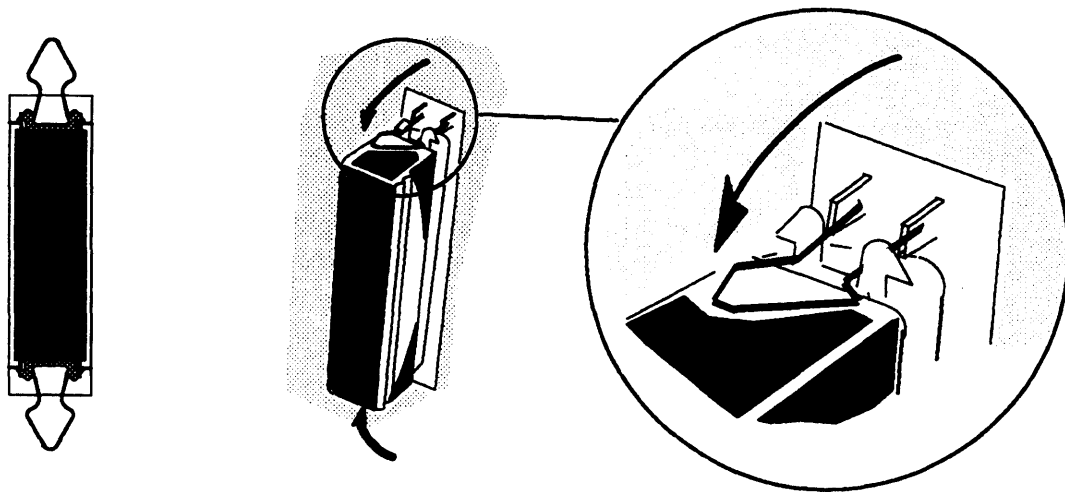

Figure 2-17 Securing a SCSI Bus Terminator
- Push the spring clips attached to the SCSI 1 connector straight down or straight up into the brackets on the terminator plug, as shown in Figure 2-17. Your vertical pressure will push the clips into place; do not squeeze or pull the clips out of shape.